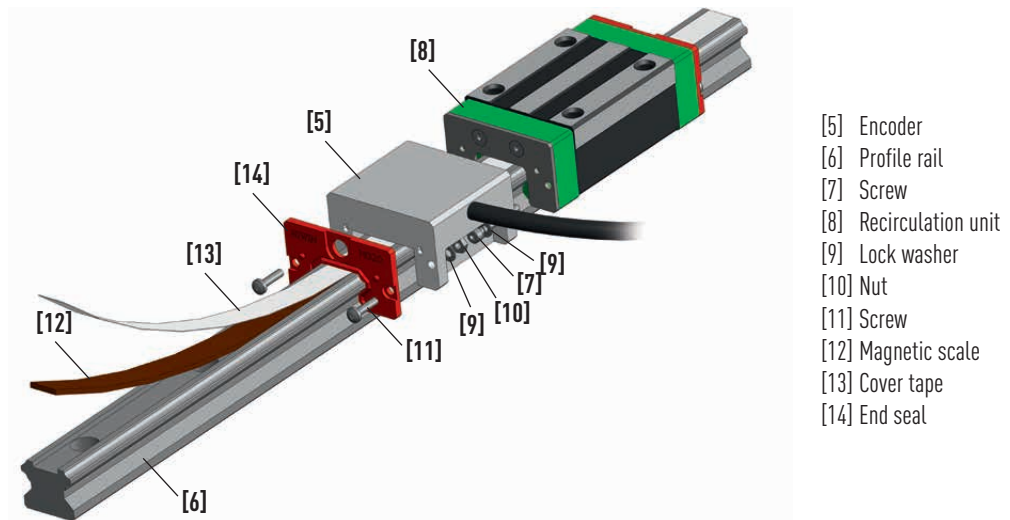

Fig. 4.5 Replacement of the MAGIC-PG encoder
- ▶ Fasten the new MAGIC-PG encoder [5] onto the recirculation unit [8] using the screws [7] and the lock washers [9] (see Fig. 4.5). Do not tighten screws [7] all the way